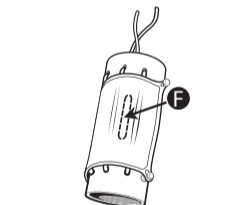

Fig. 7 - Locate Decompression Slot
2. Position MITS™ on horizontal surface with decompression slot **F** facing UP (Fig. 7).